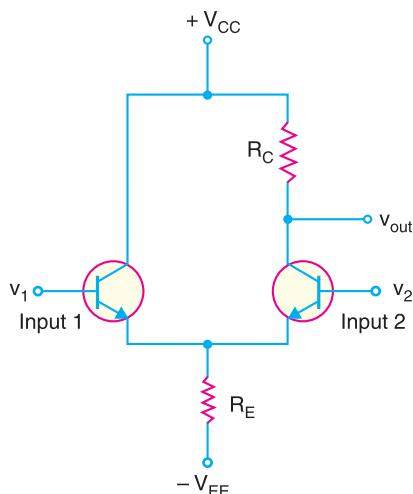

Fig. 25.20
Fig. 25.20 shows double-ended input and single-ended output differential amplifier (DA). In other words, there are two input signals and one output signal. *A DA is *normally operated in this fashion.* When input signal v_1 (input 1) is applied, the output signal is in phase with the input signal i.e., there is no phase shift in the output signal. For this reason, input signal v_1 is called *non-inverting input*. When input signal v_2 (input 2) is applied, the output signal is 180° out of phase with the input signal. For this reason, input signal v_2 is called *inverting input*.